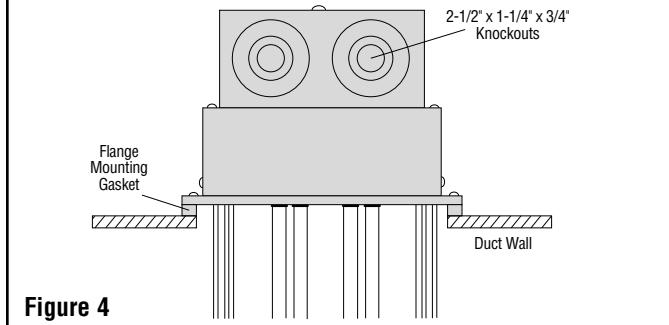

Figure 4
10. Flange mounting gasket — Packed separately with each duct heater to minimize air leakage between the flange and air duct. Refer to Table B and Figure 4.